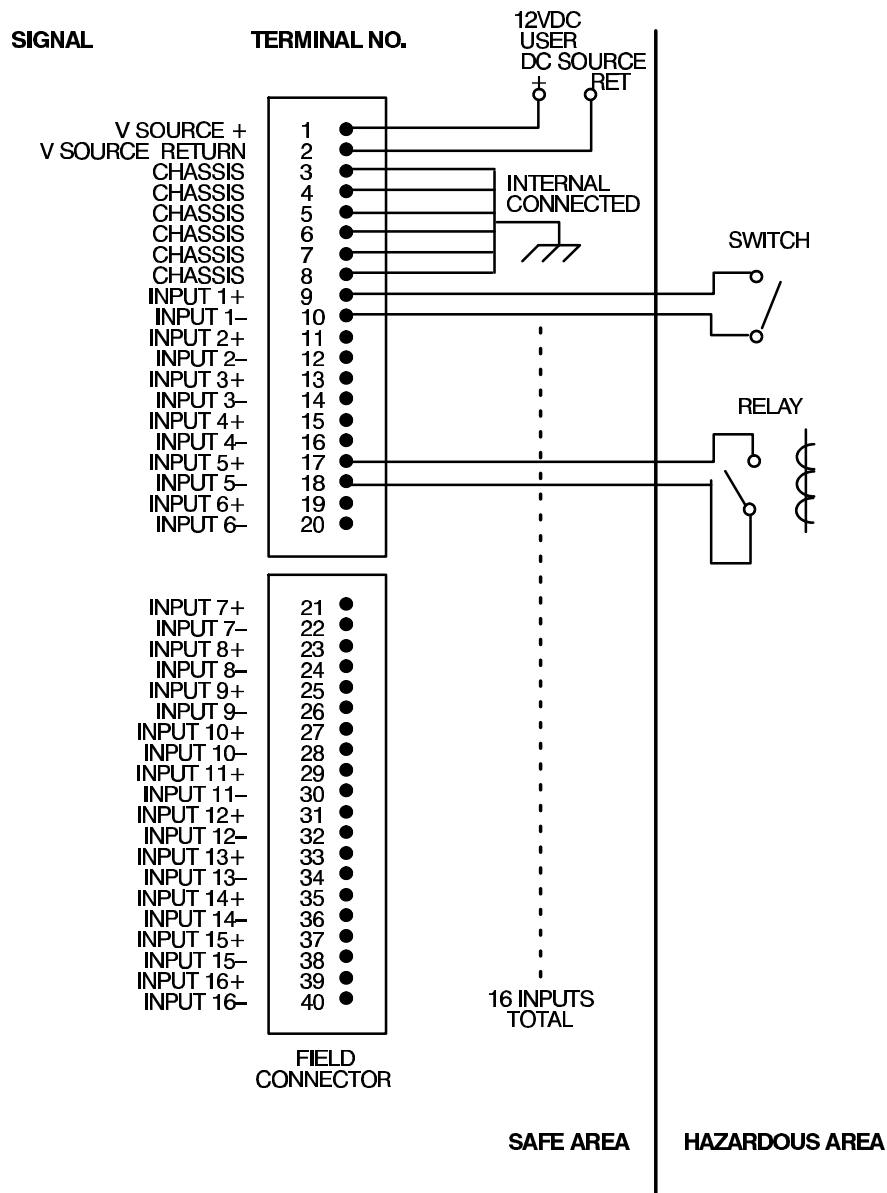

Figure 68 B855-016 Typical Field Circuit Connections
Step 7 Referring to Figure 68, connect field side wiring to proper pins on the field connector.